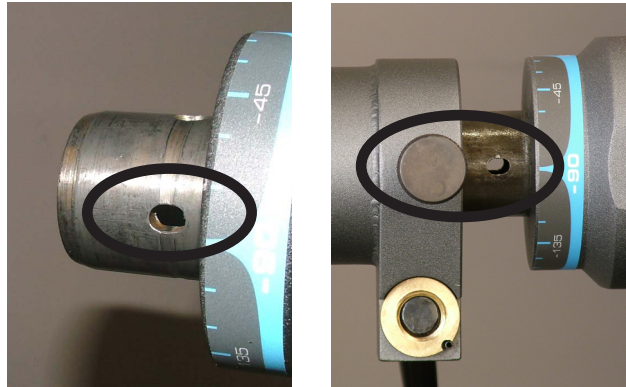

Figure 8-6. Note Hole for the Retractable Pin and Insert the Attachment into the Arm
- Step 3. Note the holes along the steel shaft of the attachment. Line one of the holes up with the retractable pin and insert the attachment into the arm as far as it will go (Figure 8-6).